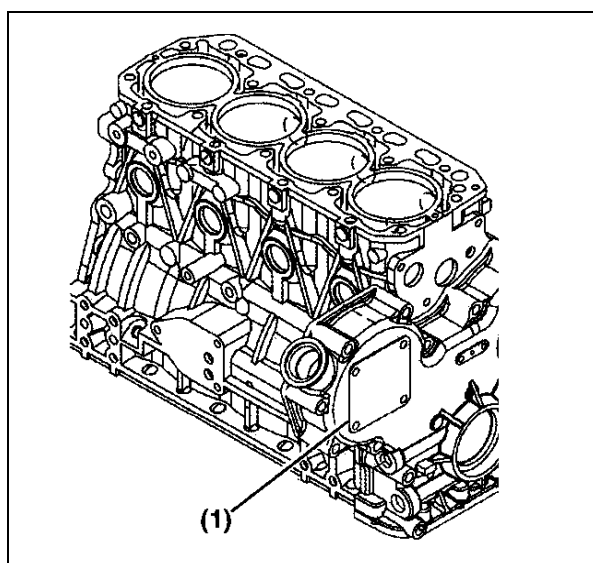

Figure 5
- (15) Remove the fuel injection pump drive gear cover (Figure 5, (1)).